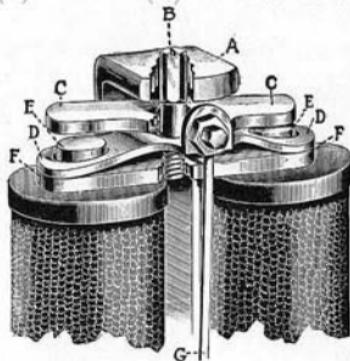
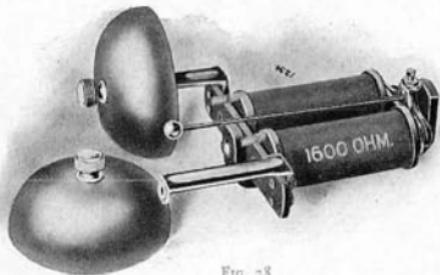

FIG. 27
Fig. 28
contained type ringer, same as shown in Fig. 28. In Fig. 27 is shown a sectional view of the armature end. The permanent magnet (A) is made of the finest grade of magnet steel carefully tempered. The adjustment screw (B) is made of brass and large enough to perform its work without any danger of twisting. This adjusting screw is hexagon shaped and the end is slotted so that the adjustment may be changed either by a screw-driver or wrench. The armature (C) and cores (E) are made of annealed